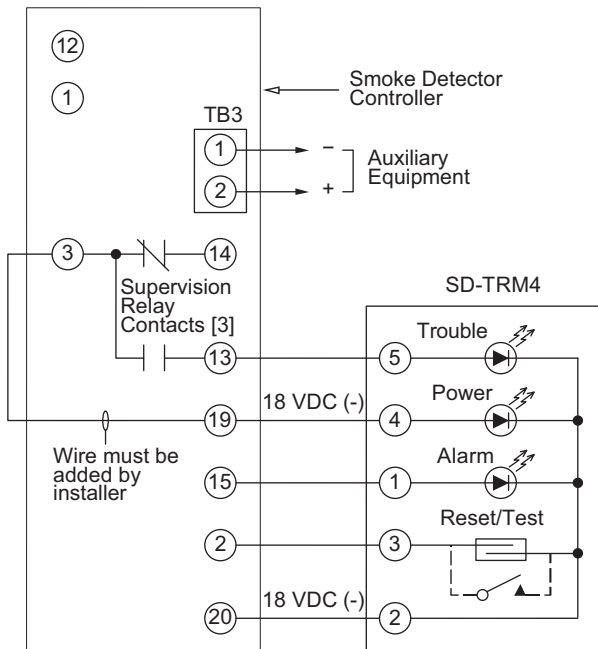

Fig. 44 — Remote Test/Reset Station Connections
The test/reset station dirty sensor test checks the test/reset station's ability to initiate a sensor dirty test and indicate the results. It must be wired to the controller as shown in Fig. 44 and configured to operate the controller's supervision relay. For more information, see "Dirty Sensor Test" on page 34.
1. Verify that the remote test/station is wired as shown in Fig. 44. Repair or replace loose or missing wiring.